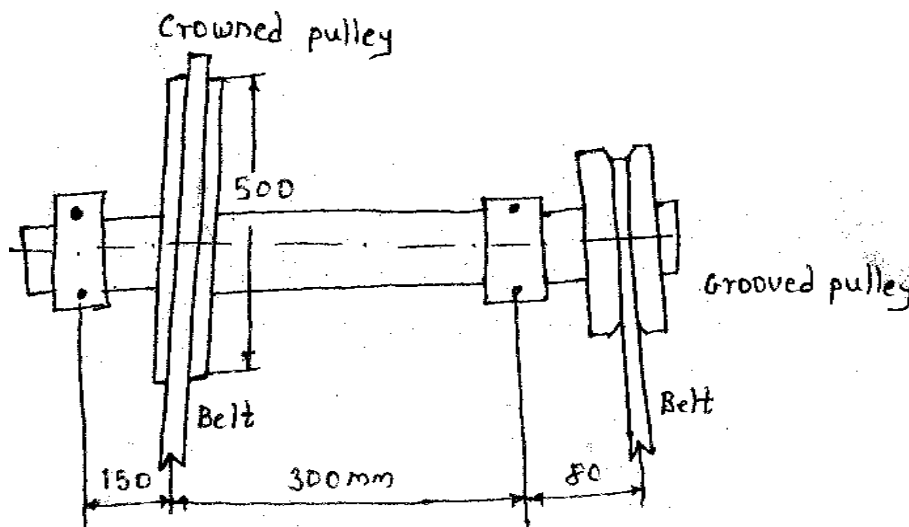

Figure 1
1. A V-grooved pulley 200 mm pitch circle diameter is receiving 5 kW from a motor and rotates a shaft at 300 r.p.m. (figure 1). A crowned pulley, 500 mm in diameter, supplies power to a machine in a workshop. The angle of wrap for both pulleys is π and the coefficient of friction between belt and pulley is 0.3. The semi-groove angle for smaller pulley is 20° . For the material of shaft, $E = 205 \text{ kN/mm}^2$, and $G = 84 \text{ kN/mm}^2$. Shaft is made of carbon steel having $s_{yt} = 267 \text{ N/mm}^2$ and $s_{ut} = 530 \text{ N/mm}^2$. The pulleys are keyed to the shaft. Determine the diameter of shaft according to A.S.M.E. code. $K_b = 1.5$ and $K_t = 2.0$. Neglect centrifugal tension in belt. Check that $\theta < 0.5^\circ$.